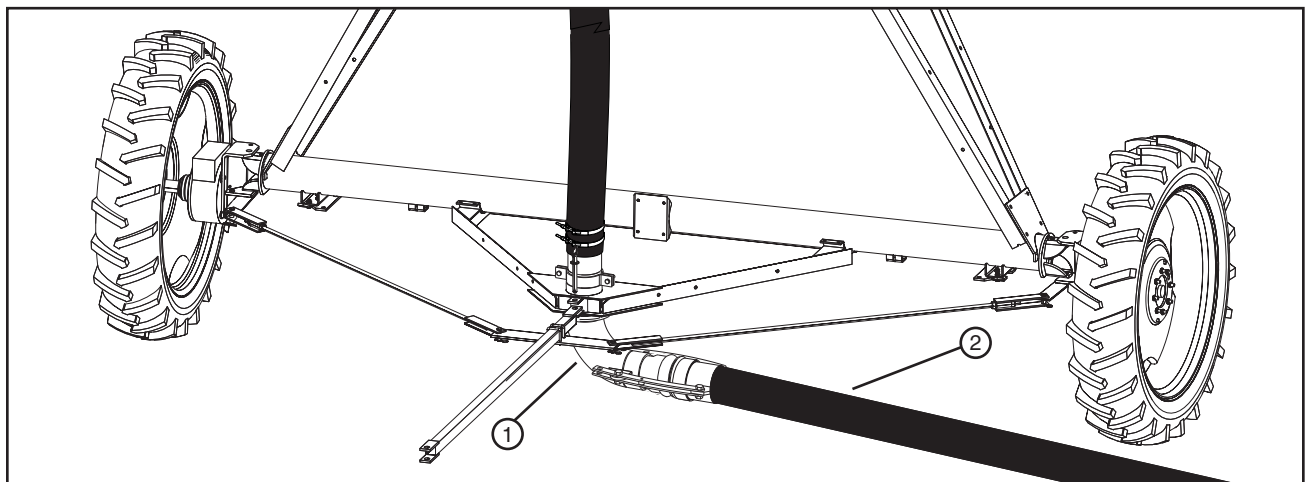

Figure 65-3 1. Hose 2. Elbow Inlet (Tee Inlet Not Shown)
- Disconnect the hose from the elbow or tee inlet. See figure 65-3.